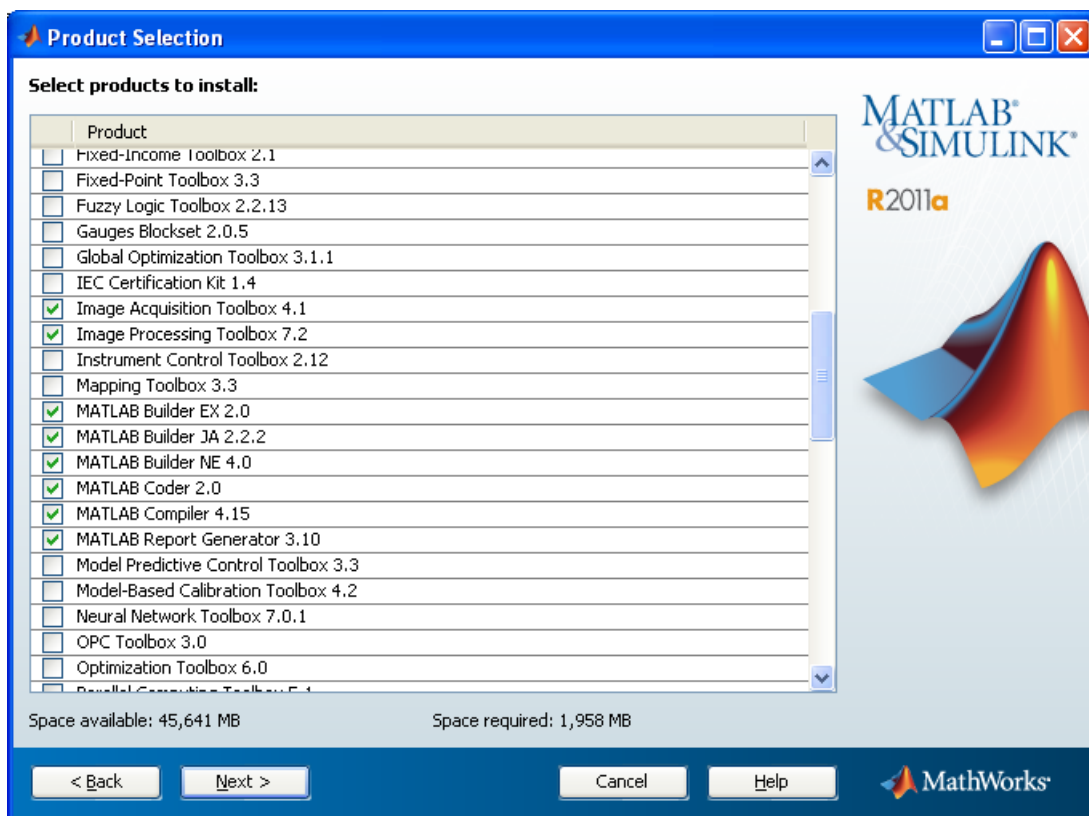

Figure 4.1: Matlab required toolbox
1. To grab images from the Photonfocus GigE camera and to modify its parameters it is required that you have a license for the Image Acquisition Toolbox. If you select the Custom setup type then make sure that at least Image Acquisition Toolbox is installed (see Fig. 4.1). In Typical setup type the mentioned components are installed anyway.